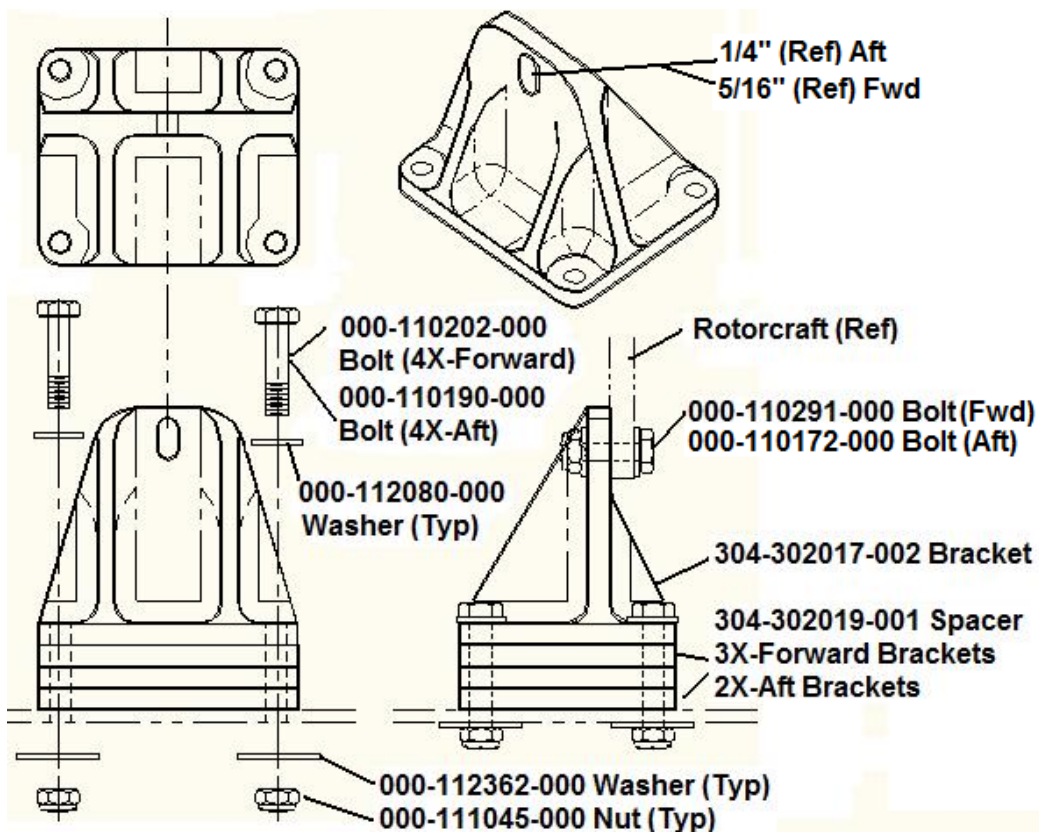

Figure 3: Upper Tank Brackets
11. Remove four (4) 304-302015-002 forward upper tank attachment brackets identified in Figure 1 and shown exploded in Figure 3 by removing four (4) 000-110202-000 bolts, washers, nuts and spacers on each bracket. Make a note of the spacer count removed.
**NOTE:** A minimum of two (2) and a maximum of three (3) spacers may be used at the forward location.
12. Remove four (4) 304-302017-002 aft upper tank attachment brackets identified in Figure 1 and shown exploded in Figure 3 by removing four (4) 000-110190-000 bolts, washers, nuts and two (2) spacers on each aft bracket.
19. Position each aft upper tank attachment bracket, 304-302017-001 (1/4" slot) with two (2) 304-302019-001 spacers on tank as shown in Figure 3. Install with 732 Sealant, four (4) 000-110190-000 bolts, 000-112080-000 washers, 000-112362-000 washers and 000-111045-000 nuts.
Position each forward upper tank attachment bracket, 304-302015-002 (5/16" slot) with the same quantity of 304-302019-001 spacers removed in Step 12 on tank as shown in Figure 3. Install with 732 Sealant, four (4) 000-110202-000 bolts, 000-112080-000 washers, 000-112362-000 washers and 000-111045-000 nuts.